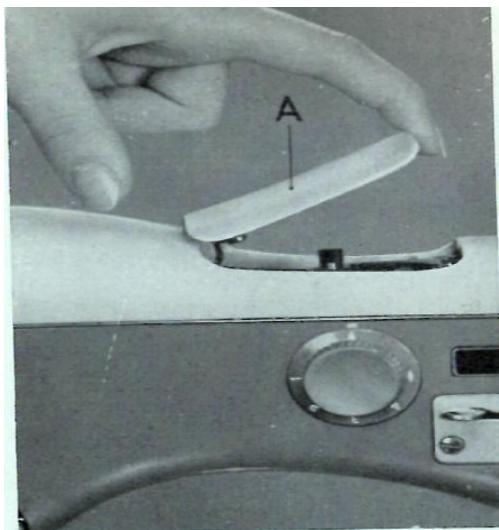

Figure 1
- a) Open the lid A covering the automatic mechanism (figure 1)